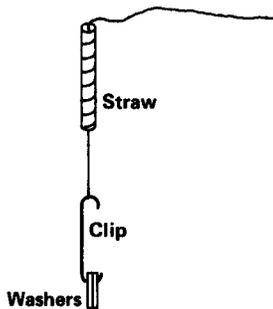

Figure 5-18
1. Take a piece of aluminum foil about a foot square and form it into the shape of a ball about 3 to 4 cm in diameter. Tie it to one end of a piece of heavy thread, about one meter long. Cut about 10 cm from the end of a plastic soda straw and pass the loose end of the thread through it. Make a hook from a paper clip and tie it to the loose end of the thread (Fig. 5-18).